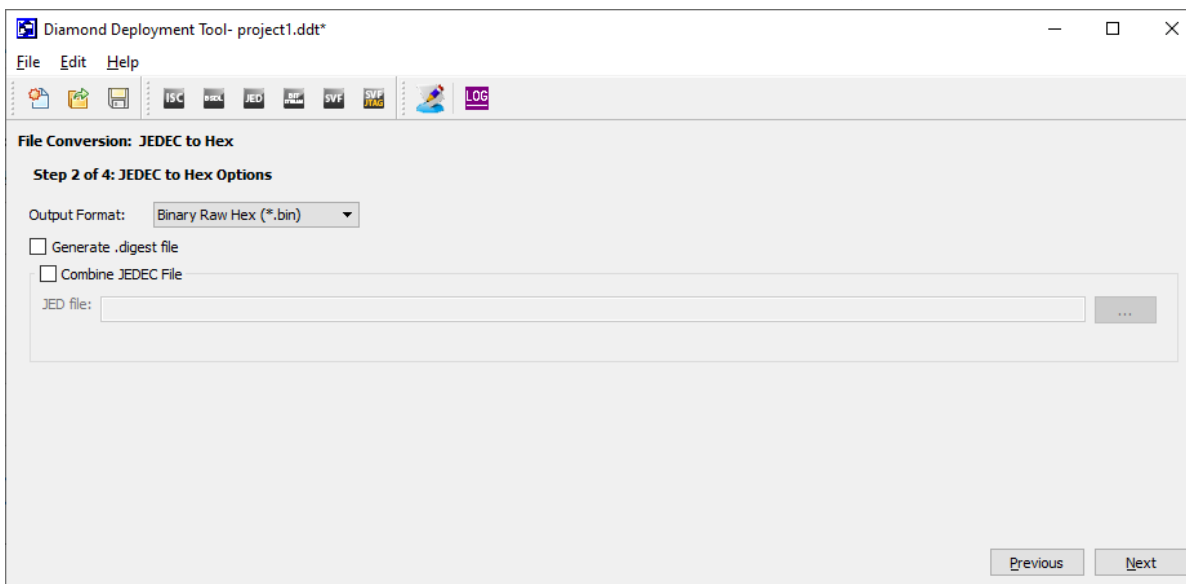

Figure 5.4. Select Output Format
- Select **Binary Raw Hex (*.bin)** as the *Output Format* and click **Next** as shown in Figure 5.4.